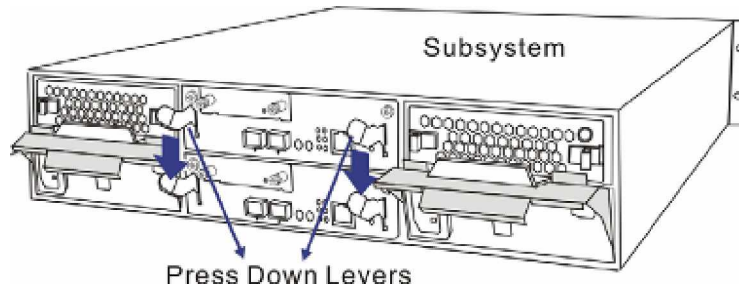

Figure 5-2: Pressing the Controller Levels Down
-  **Step 3. Remove the controller module** by pressing down the two (2) levers at the back of the controller module. The controller module will automatically ease out of the controller module bay. (See **Figure 5-2**)